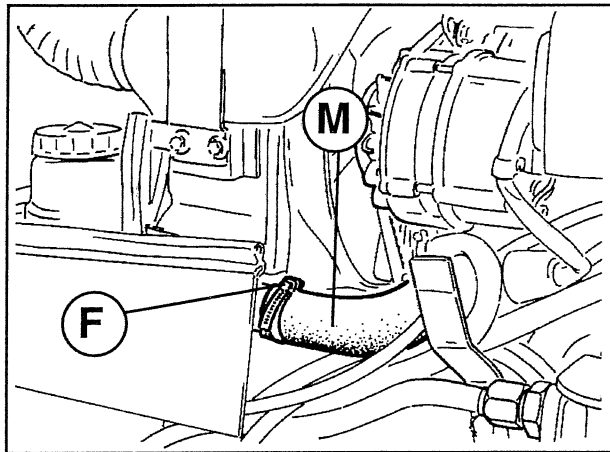

Fig. 40 Hose for draining the engine radiator (model 4035W).
- disconnect the pipe (S) under the tank, after undoing the hose clamp.
- 4) Change the engine cooling liquid (Fig. 40) (model 4035W).